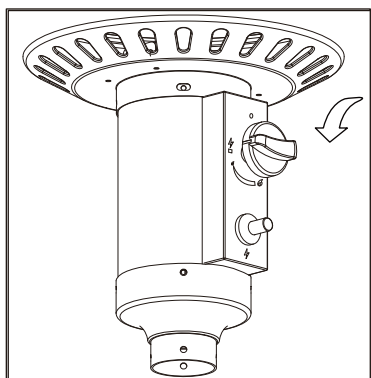

Figure 3
- Push in control knob and turn counterclockwise to "PILOT" () (Figure 3).